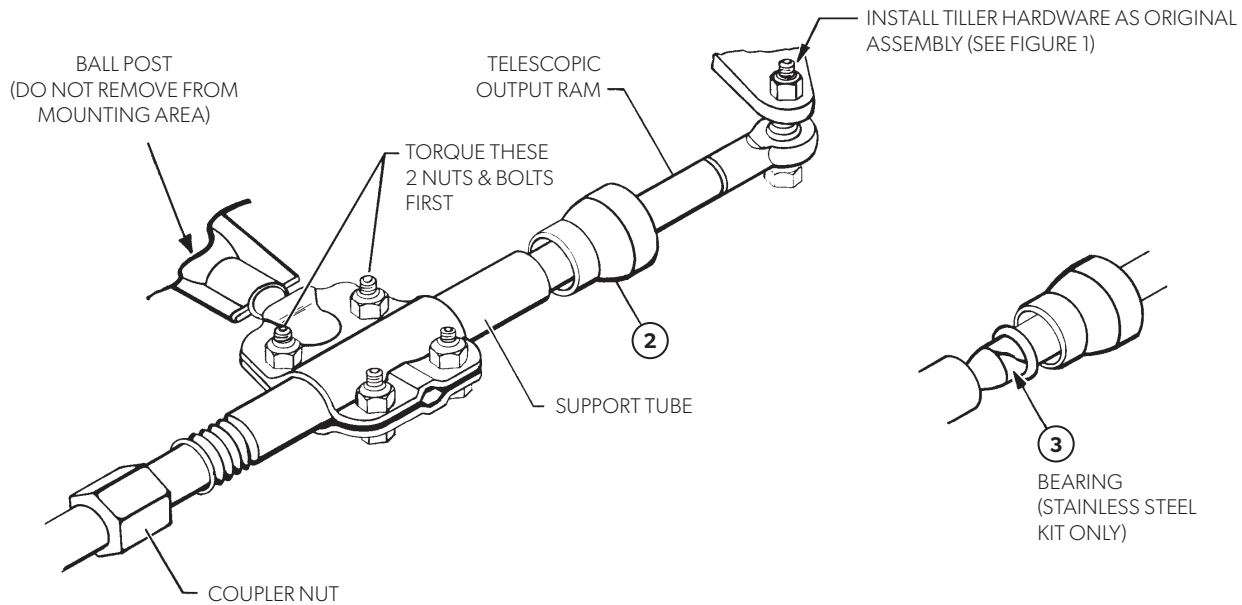

Figure 4.
1. Apply a thin coat of lightweight waterproof grease to the telescopic output ram and insert ram into support tube (see figure 4).